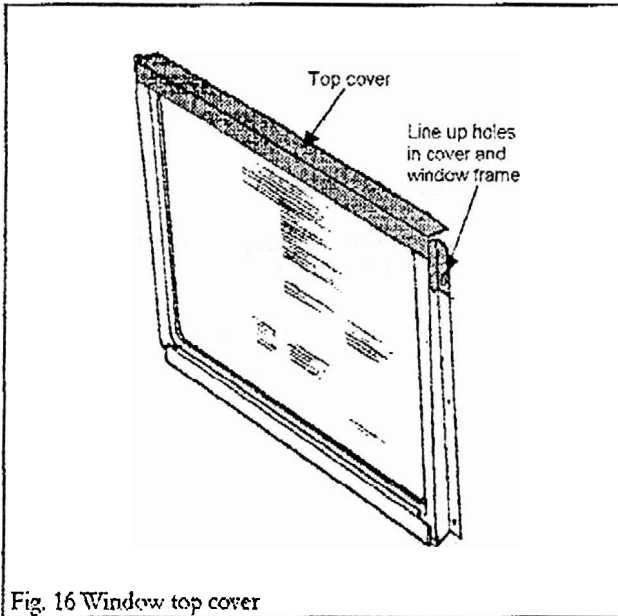

Fig. 16 Window top cover
13.3 If installed with a traditional design front fascia, fit the window frame top cover (supplied in the pack) over the top of the window frame to hide the bare metal (see figure 16).